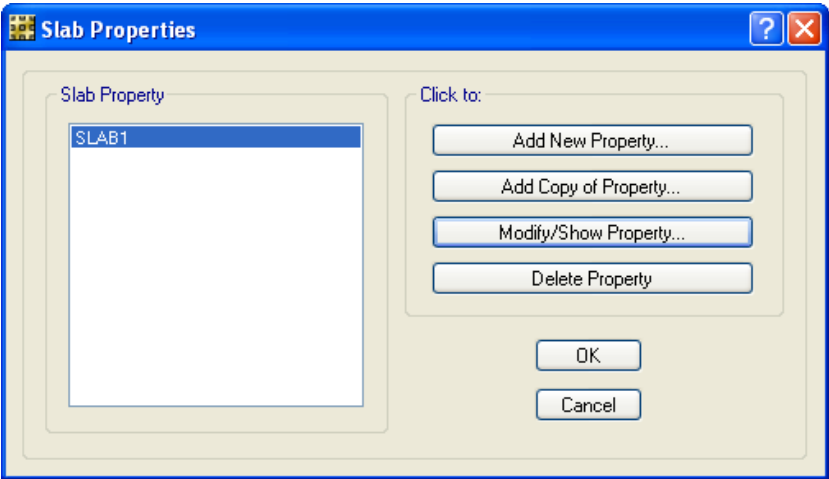

Figure 61 Slab Properties form
- A. Click the **Define menu > Slab Properties** command to access the Slab Properties form shown in Figure 61.